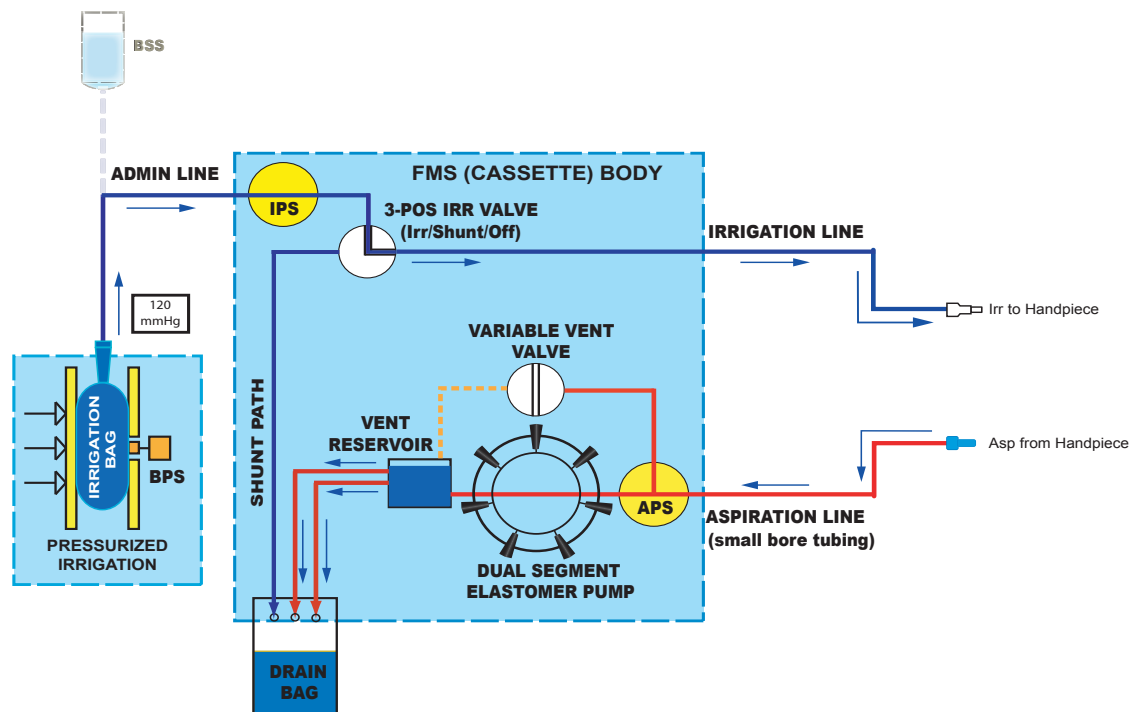

Figure 2-2 Fluidics Fluid Flow Diagram
- 1.7.1 The main function of the Fluidics system is to provide irrigation (active or gravity) and aspiration to the surgical site during a cataract removal procedure. Pressure sensors enable the system to detect an overpressure or underpressure condition relative to a surgeon-selected IOP target setting. Additional control features are provided to allow adjustment to the level of flow compensation based on the surgeon's observations of the anterior chamber fluctuations. This provides flexibility to customize the system to accommodate for differences in surgical technique, incision size, tip/sleeve selection, or surgeon preference. *Figure 2-2* shows a diagram of the fluid flow in the fluidics system.